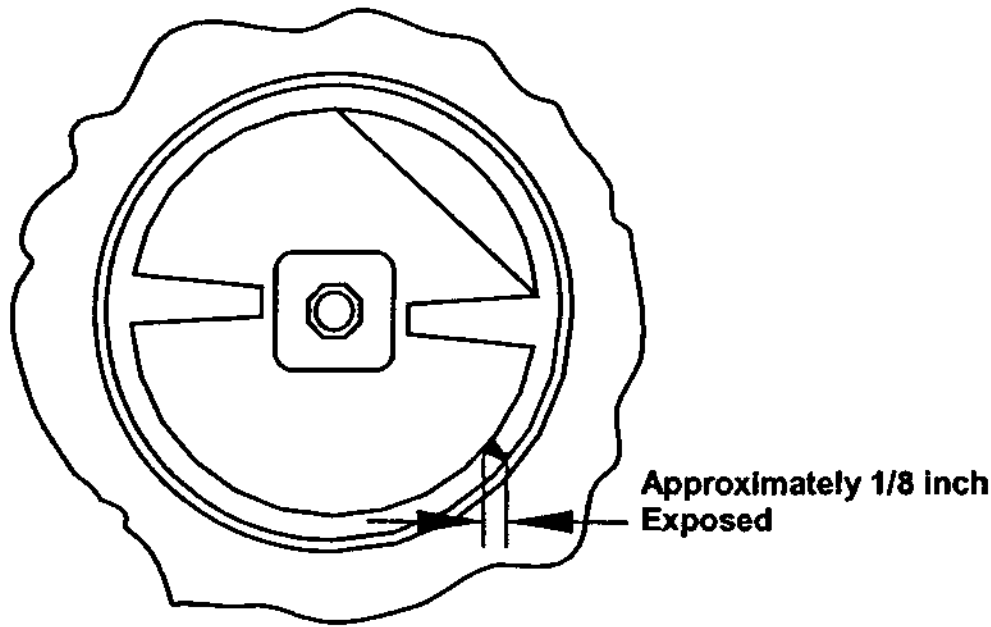

Fig. 31
- h. While maintaining force against the dasher, rotate it slowly until the tongue of the dasher engages the groove in the drive system at the rear of the cylinder. The outer most portion of the dasher should be recessed approximately 1/4" (6 mm) to 3/8" (10 mm) inside the freezing cylinder. No part of the dasher should extend outside the cylinder. Scraper blades should be visible, extending approximately 1/8" (3 mm) beyond the dasher (Fig. 31).